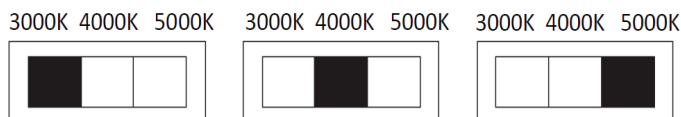

Figure 3
10. Select the desired CCT by moving the selector switch to the desired CCT shown in figure 3.